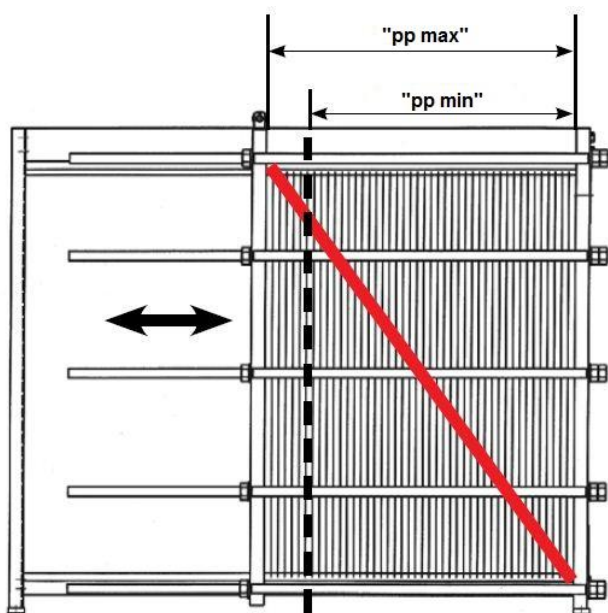

Fig. 7
Definition of compression dimensions (length of plate pack) - (see fig. 7):
3. Paint a diagonal colored line across the side of the plate pack (see figure 7).